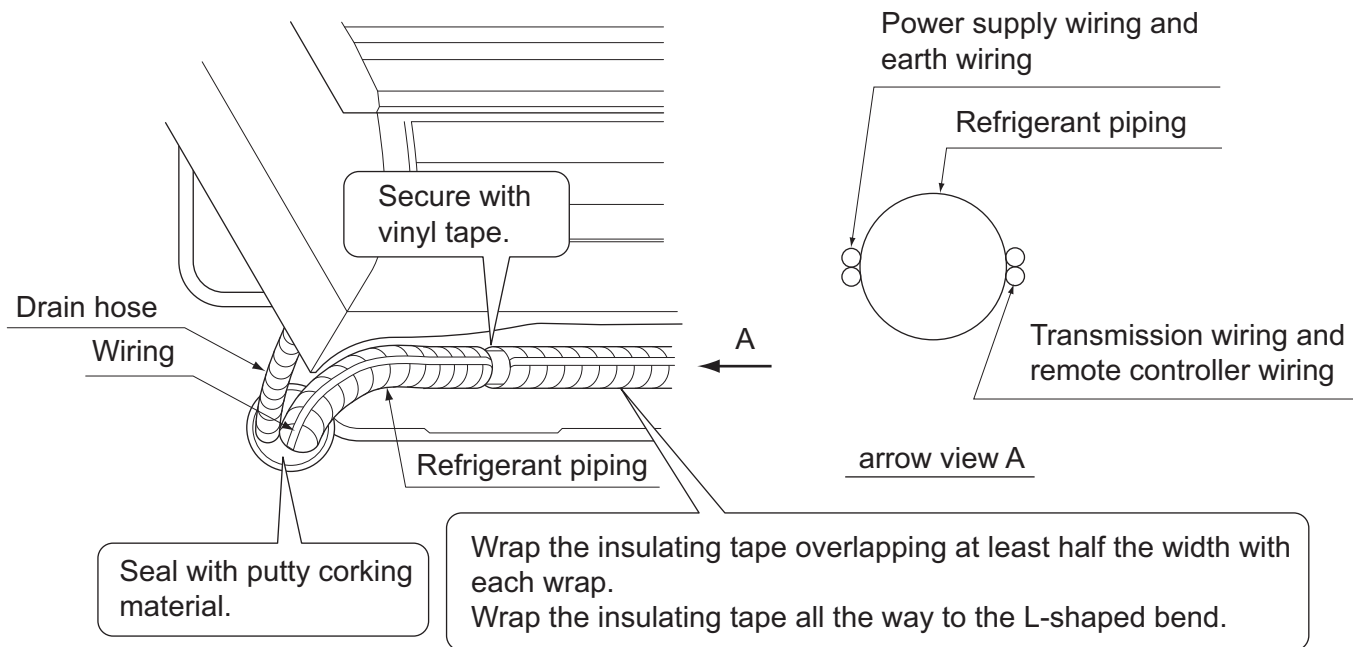

Fig. 10
(7) Pass power supply wiring, transmission wiring, earth wiring, and remote controller wiring through the wiring guide in from the back of the indoor unit and to the front.
(8) Connect the piping. (See “5.REFRIGERANT PIPING WORK” and Fig. 10)